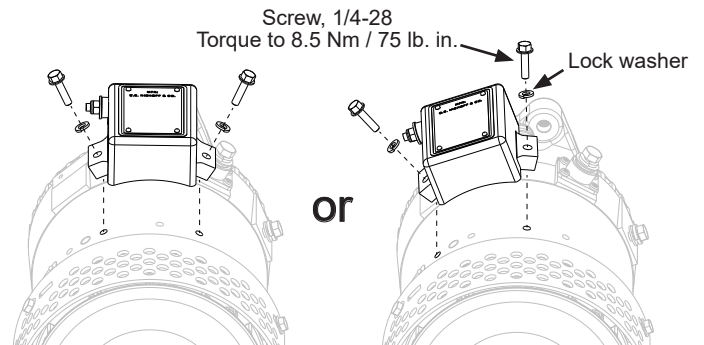

Figure 7: Regulator Mounting Location Options (drive-end view)
- Mount regulator on alternator shell with included screws and lock washers in location best suited to the application. See Figure 7. Torque mounting screws to 8.5 Nm/75 lb. in.